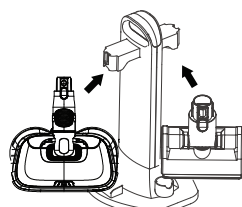

Fig 3
3. Attach the connector of the motorized tools (motorized steam mop, motorized floor brush, or motorized bed tool) to the tool mounts (Fig 3).